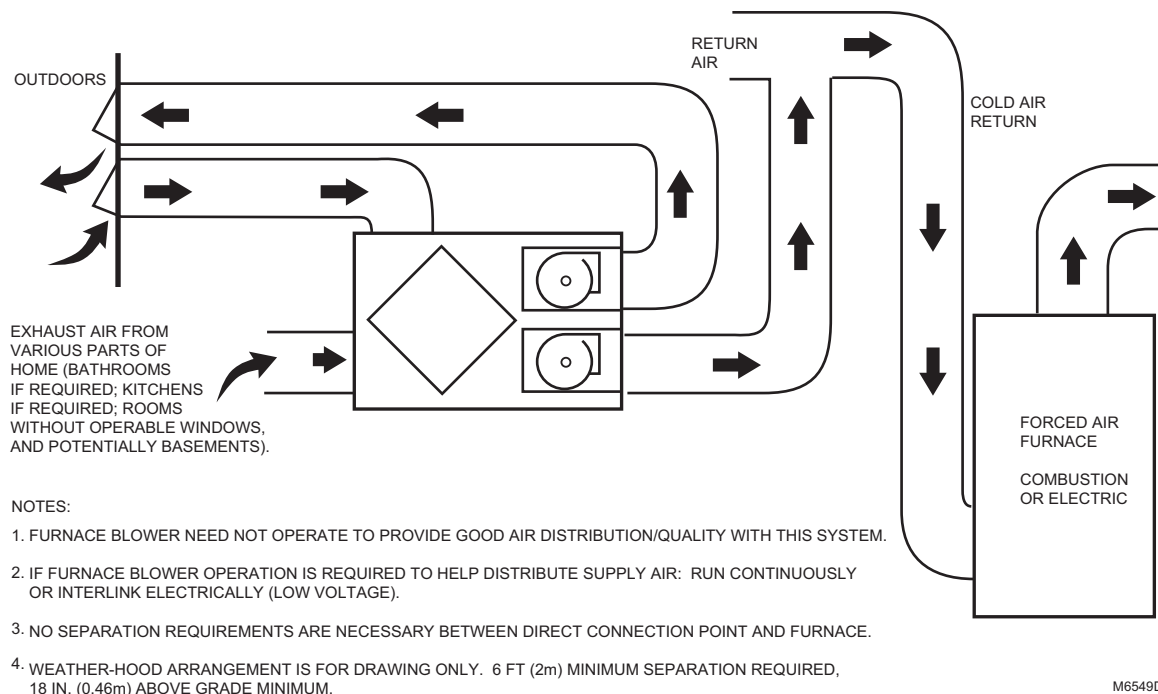
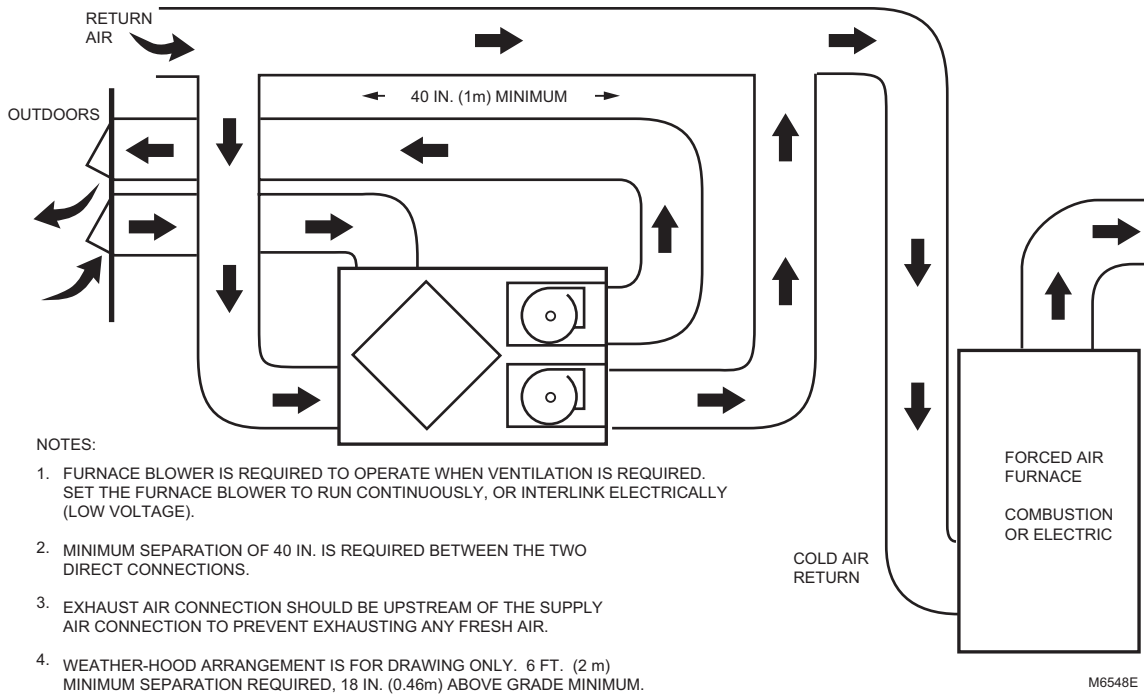
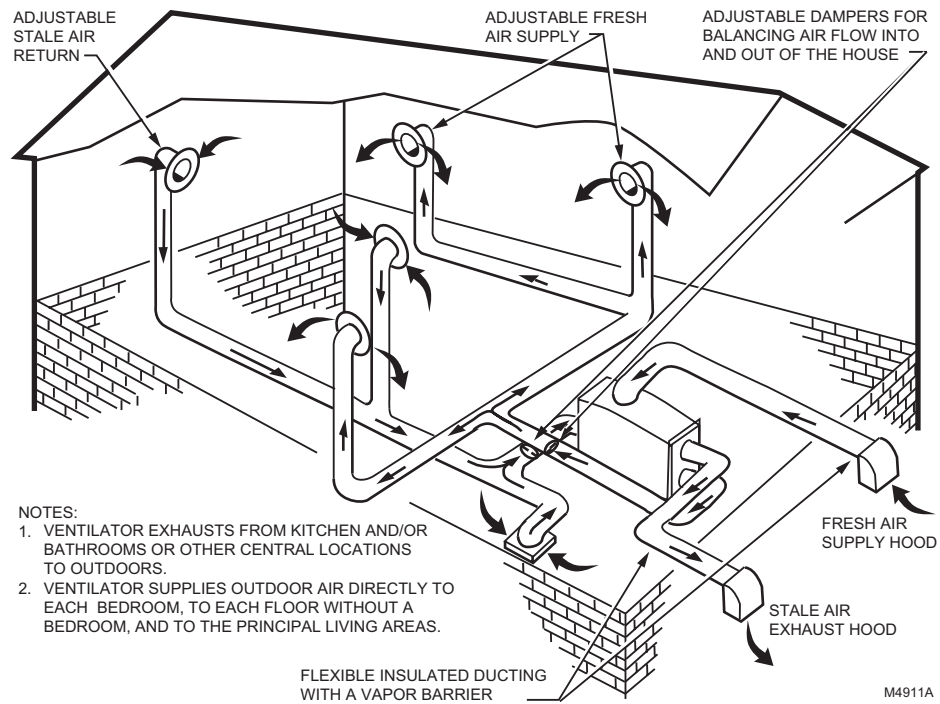

Fig. 5. Direct connection of supply air stream to furnace cold air return for HRV/ERV.
Fig. 6. Direct connection of ventilator supply air stream and exhaust air stream to furnace cold air return.
Fig. 7. Independent ventilator installation.
- Ducting the supply outlet and/or the exhaust inlet of the ventilator to the return air plenum of the air handler is an excellent way to distribute fresh air and exhaust stale air from all parts of the house, while reducing installation costs. When choosing this method, balance the ventilator when the air handler is running and interlock the ventilator so that it can run only when the air handler runs. See Fig. 6. An alternate method is to balance the ventilator when the air handler is not running and let the ventilator run whether the air handler is running or not, see Fig. 5. An independent installation is shown in Fig. 7.